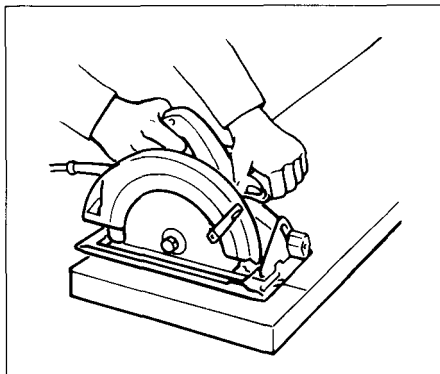
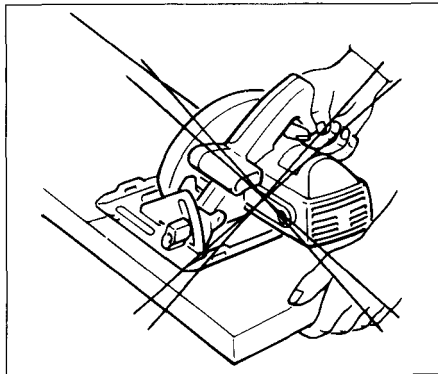

Fig. 5
Fig. 6
15. Place the wider portion of the saw base on that part of the workpiece which is solidly supported, not on the section that will fall off when the cut is made. As examples, Fig. 5 illustrates the RIGHT way to cut off the end of a board, and Fig. 6 the WRONG way. If the workpiece is short or small, clamp it down. **DON'T TRY TO HOLD SHORT PIECES BY HAND!**